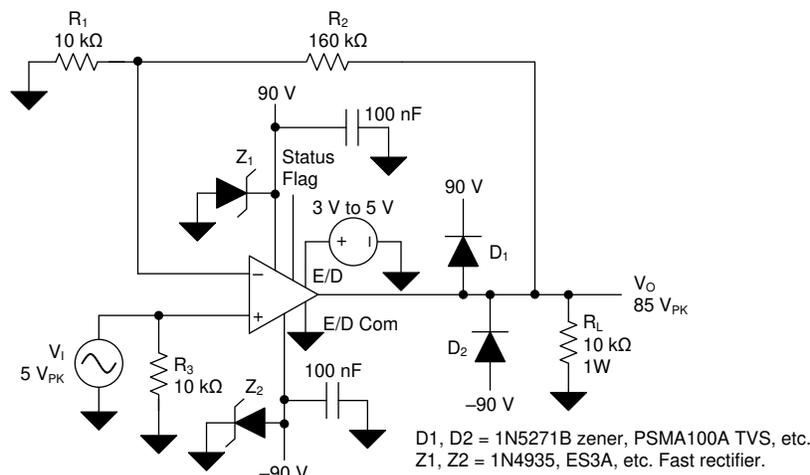

Figure 61. OPA462, High-Voltage Noninverting Amplifier, $A_v = 17$ V/V
The OPA462 high-voltage op amp can be used in commonly applied op amp circuits, but with the added capability of allowing for the use of much higher supply voltages. A very common application of an op amp is that of a noninverting amplifier with a gain of 1 V/V or higher. Figure 61 shows the OPA462 in a noninverting configuration.
Figure 61 shows a noninverting circuit with a moderately high closed-loop gain (A_V) of 17 V/V (24.6 dB). In this example, a 5-V_{PK} ac signal is amplified to 85 V_{PK} across a $10\text{-k}\Omega$ load resistor connected to the output. The peak current for this application is 8.5 mA, and is well within the OPA462 output current capability. Higher output current, typically up to 30 mA, may be attained at the expense of the output swing to the supply rails. A $\pm 90\text{-V}_{\text{DC}}$ power supply is required for this configuration.
A potentially destructive mechanism is the back EMF transient that can be generated when driving an inductive load. D_1 , D_2 , Z_1 and Z_2 in **Figure 61** have been added to the basic OPA462 amplifier circuit to provide protection in the event of back EMF. If the voltage at the OPA462 output attempts to momentarily rise above V_+ , D_1 becomes forward-biased and clamps the voltage between the output and V_+ pins. This clamp must be sufficient to protect the OPA462 output transistor. If the event causes the V_+ voltage to increase the power supply bypass capacitor, Z_1 , or both, a Zener diode or a transient voltage suppressor (TVS) can provide a path for the transient current to ground. D_2 and Z_2 provide the same protection in the negative supply circuit.
The OPA462 noninverting amplifier circuit with a closed-loop gain of 17 V/V has a small-signal, -3-dB bandwidth of nearly 800 kHz. However, the large-signal bandwidth is likely of greater importance in a high-output-voltage application. For that mode of operation, the slew rate of the op amp and the peak output swing voltage must be considered in order to determine the maximum large-signal bandwidth. The slew rate (SR) of the OPA462 is typically $6.5\text{ V}/\mu\text{s}$, or $6.5 \times 10^6\text{ V/s}$. Using the 85-V_{PK} output voltage available from the circuit in **Figure 61**, the maximum large-signal bandwidth is calculated from the slew rate formula. Equation 1, Equation 2 and Equation 3 show the calculation process.